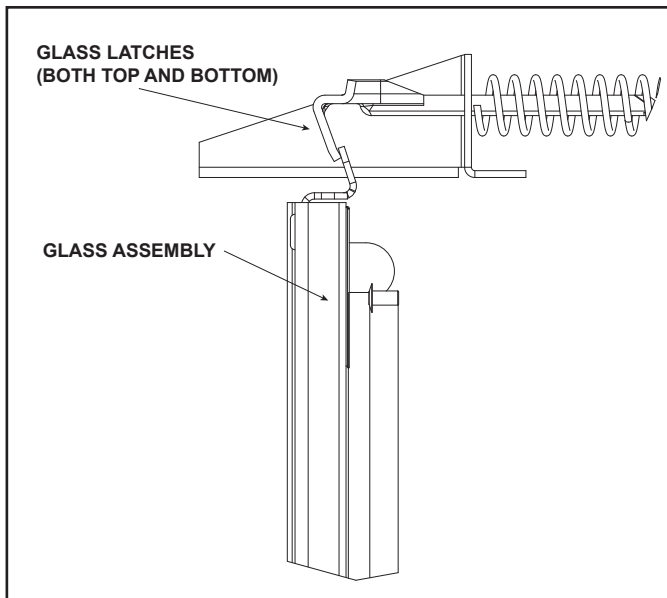

Figure 4.1 Fixed Glass Assembly
- Remove the glass assembly from the firebox by releasing the two top glass latches and then the two bottom glass latches. Hold glass in place with one hand and release glass latches with the other hand. See Figure 4.1.
- Carefully set fixed glass assembly in place on fireplace. Hold glass in place with one hand and secure glass latches with the other hand. Refer to Figure 4.1.